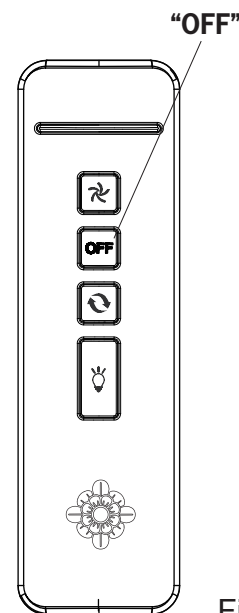

Fig. 4
2. **Learn function setting**, Restore power source to your fan, press and hold the "OFF" button for at least 4 seconds. You must press the 'OFF" button within 60 seconds of restoring power to the fan. (Fig. 4)